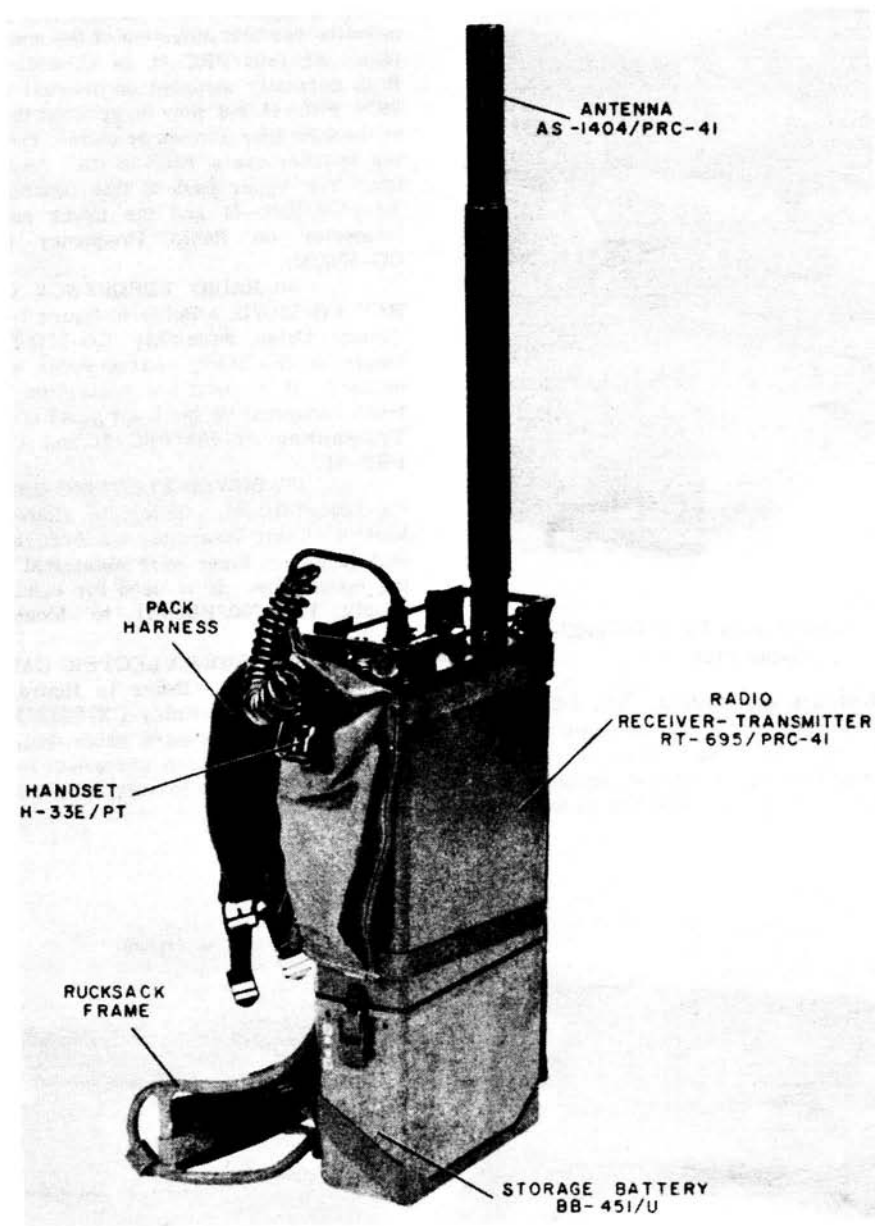

Figure 1-6. Radio Set AN/PRC-41, Man-Pack Operation Configuration
(5) ANTENNA AS-1404/PRC-41. - Refer to figure 1-6. Antenna AS-1404/PRC-41 is an omnidirectional antenna for use with Radio Receiver-Transmitter RT-695/PRC-41. The AS-1404/PRC-41 is used for transmission and reception of signals in the 225- to 399.9- mc range without electrical or physical adjustments. It may be mounted directly on antenna connector 1A9J28 on the front panel of Radio Receiver-Transmitter RT-695/PRC-41 or the connector on the antenna mounting bracket; or, when mounted on Mast AB-777/PRC-41, it must be connected through Adapter UG-29B/U and Radio Frequency Cable Assembly CG-55G/U to the RT-695/PRC-41.
(6) HANDSET H-33E/PT. - Refer to figure 1-6. Handset H-33E/PT is made up of a hand piece, a length of cable, and a connector which mates with either AUDIO connector on the front panel of Radio Receiver-Transmitter RT-695/PRC-41. The H-33E/ PT contains a transmitter, a receiver, and a press- button. In operation, pressing the press-to-talk button places the RT-695/PRC-41 equipment in transmit operation; releasing returns the equipment to receive operation.
(7) RUCKSACK FRAME. - Refer to figure 1-6. The rucksack frame is a government furnished equipment. The rucksack frame and associated straps and harness provide a back pack frame for carriage of Radio Receiver-Transmitter RT-695/PRC-41. Storage Battery BB-451/U, and Antenna AS-1404/PRC-41 in man-pack operation.